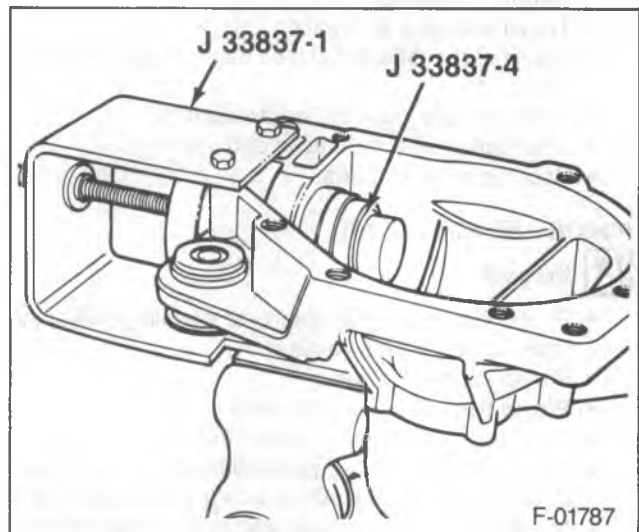

Figure 18—Installing the Inner Pinion Bearing Cup
- Bearing cup (39) into the case using J 33837-1, J 33837-3, and J 33837-4 (figure 18).